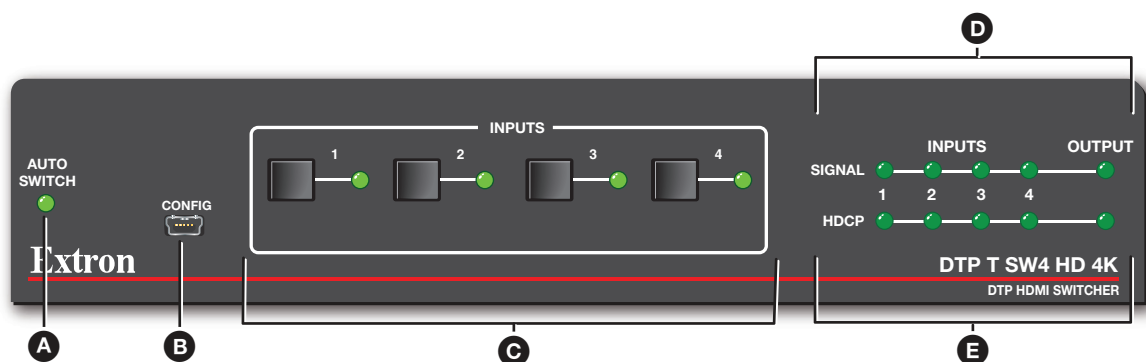

Figure 2. DTP T SW4 HD 4K Front Panel
- **Config port** — Connect a USB mini-B cable to the front panel USB connector (see figure 2, B, on the next page) for USB control.